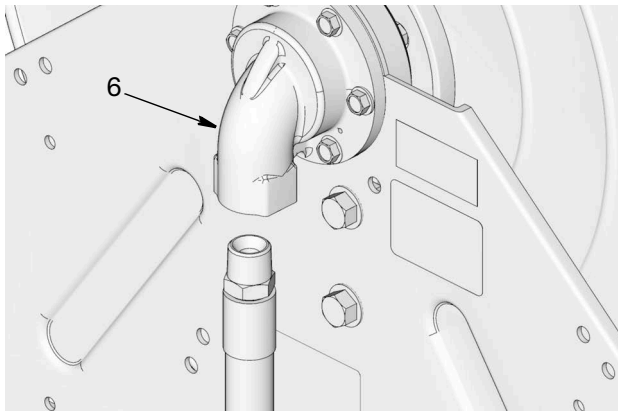

FIG. 31
3. Attach inlet hose to inlet (6) (FIG. 31).